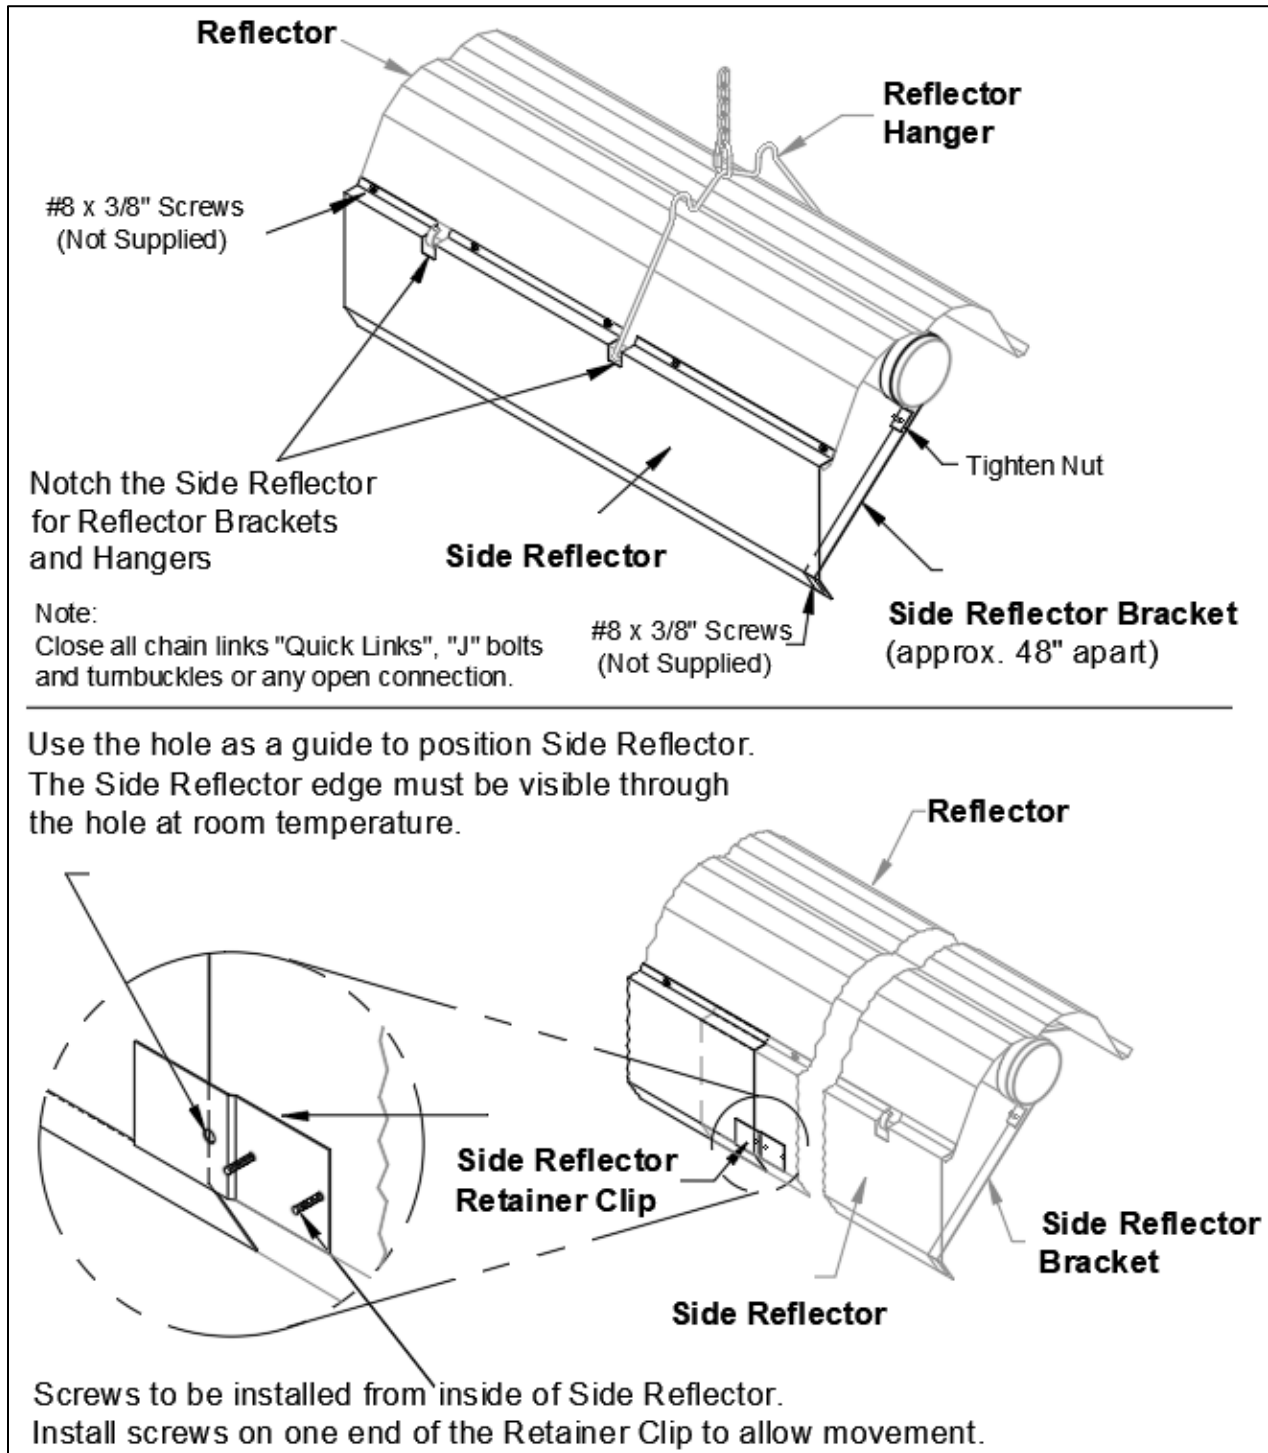
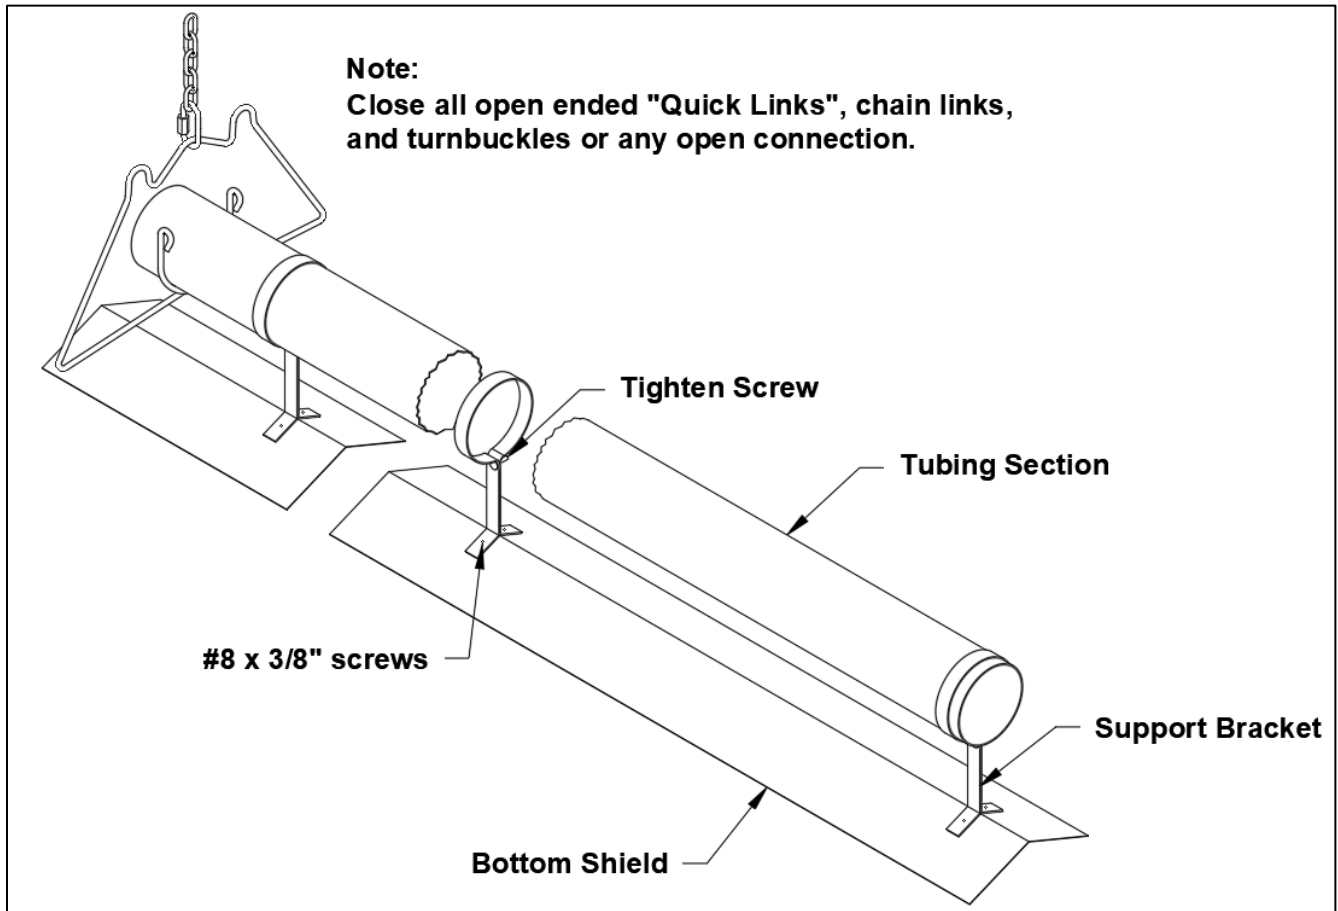

Figure 21: Side Shield Overlap
Figure 22: Bottom Shield Installation
- If used, install side shields (reflectors) and/or bottom shield as required. Refer to Figure 21 and Figure 22 for details.
- Side shields are 124" (315cm) long. Fasten one side shield per reflector with #8 x 3/8" screws. Use three side shield brackets per side shield. Space about 48" (122cm) apart, refer to Figure 21.
- Bottom shields need not overlap. Each 5' section is held with two support brackets (see Figure 22).